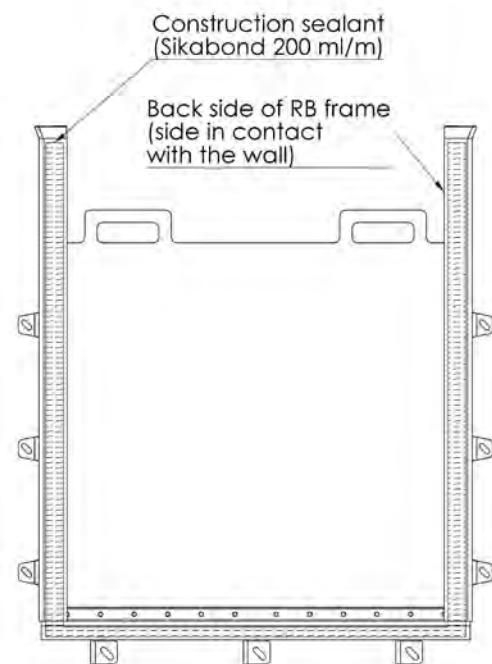

Figure 13
- Apply construction sealant all around the perimeter of the frame, where it will be in contact with the wall. Construction sealant shall be used (See Figure 13). Be sure not to get sealant on the gate's seals or guides as this may cause leakage or damage.